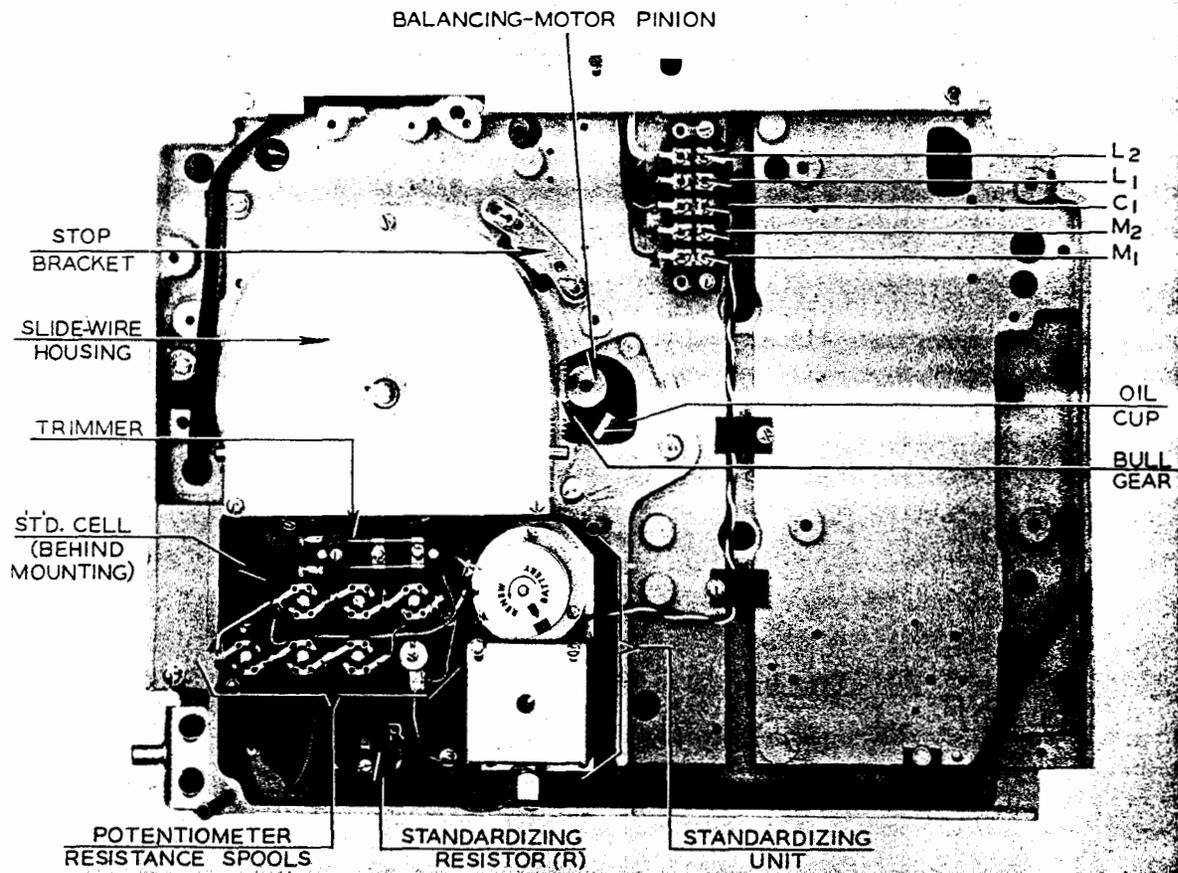

FIGURE 6. REAR VIEW OF HINGED PANEL
a. On instruments with the Series C amplifier. Turn power switch off. Remove the two control-winding wires at terminals M_1 and M_2 (Figure 6) and then put these wires across terminals L_1 and L_2 on the same terminal block. Turn on power switch. The motor should move the pen up or downscale (depending upon phase). Next, reverse these wires from the control winding. The motor should move the pen in the opposite direction. If the balancing motor fails to move the pen up or downscale with the above tests, it could mean that one of the following conditions exists: